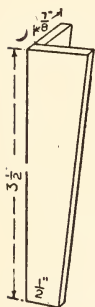

FIG. 297.
**The Dining-Table** shown in Fig. 293, and after making four built-up legs as shown in Fig. 297 fasten them